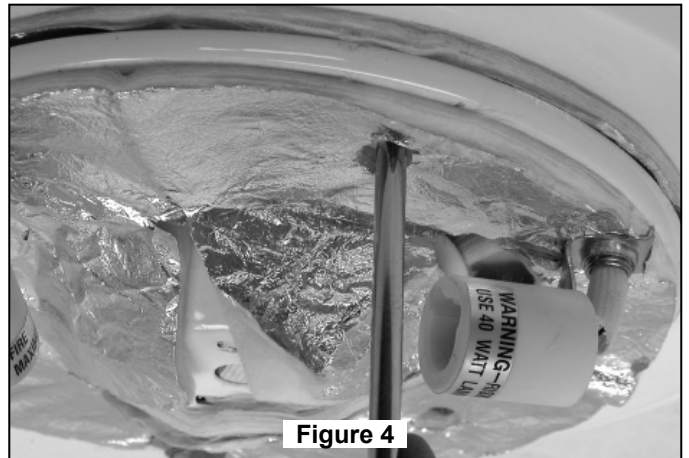

Figure 4
7. Attach assembled blade arms to the motor hub using the provided $\frac{1}{4}$ "-20 philips screws (with spring washers). Make sure the screws securing the blade arms to the motor hub are tight and are properly seated. (Figure 4)
4. Securely attach Downlight Socket Plate Assembly to the Adapter Plate by tightening three screws with spring washers (5/32-32 x 7 mm) provided with the fan. (Figure 4)
Be sure to line up the curved slotted holes located on both Lower Housing Support Plates. (Figures 4 & 5)